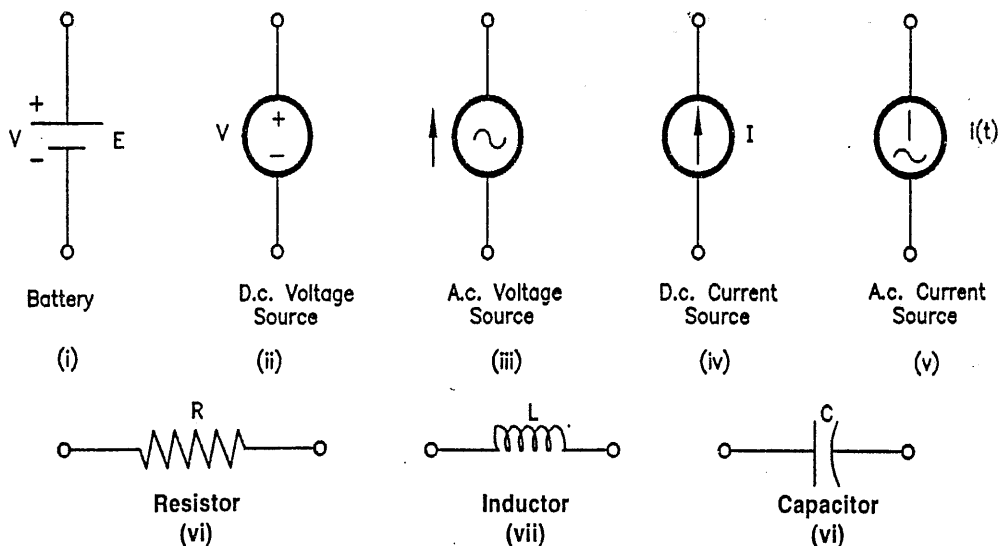

FIG. 1.60 : REPRESENTATION OF SOURCES AND CIRCUIT ELEMENTS
- The symbols for the various circuit elements are given in Fig. 1.60